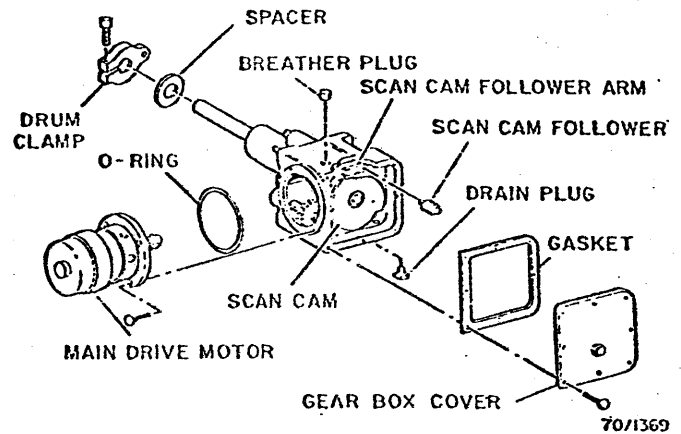

Fig. 3-6. Main Drive Motor and Gear Box Assembly
1. Drain gear box by removing breather plug and drain plug (Fig. 3-6).
2. Remove gear box cover and gasket (Fig. 3-6).